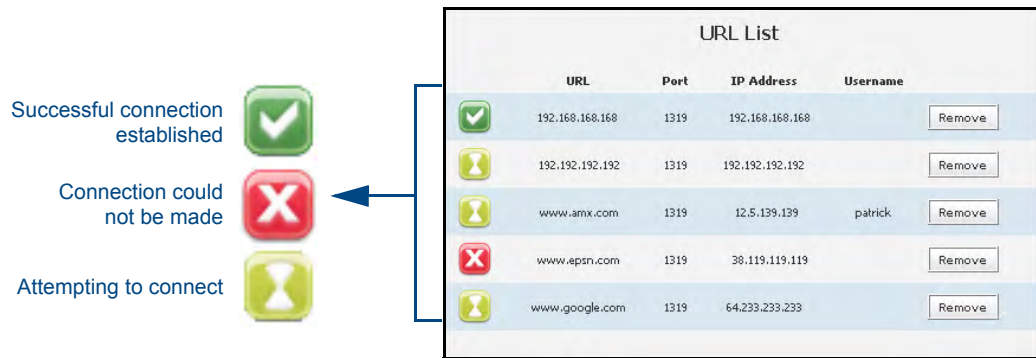

FIG. 54 URL List dialog (with entries)
10. Confirm that the newly added URLs appear within the URL List dialog (FIG. 54).
- Remove an individual URL entry by pressing the **Remove** button on that URLs row listing within the URL List dialog (FIG. 54).